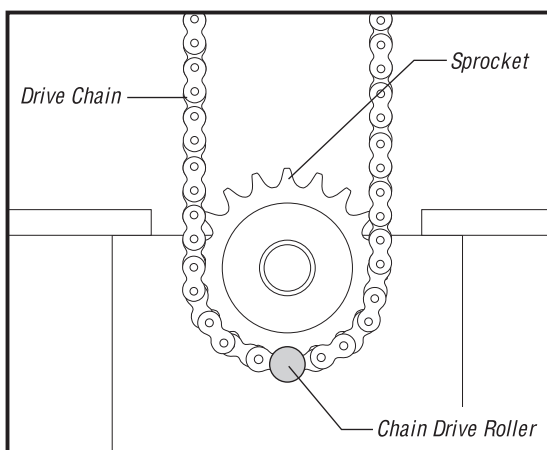

Figure 11.23 Chain drive roller positioning.
17. Ensure that the drive roller on the APC chain is centered under the control box, as shown in Figure 11.23. If not, use the chain position adjustment tool to rotate it into this position.